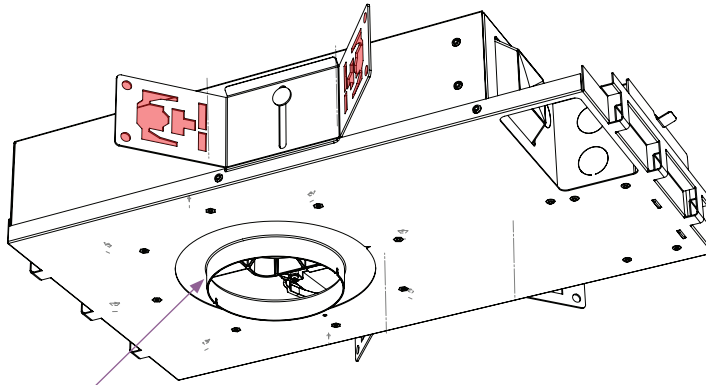

fig. 8: Collar
- a. Use bar stock or C-channel (not provided) to mount in the ceiling. The supports should go through the holes in the butterfly brackets and can be used to suspend without screws (see fig. 8).